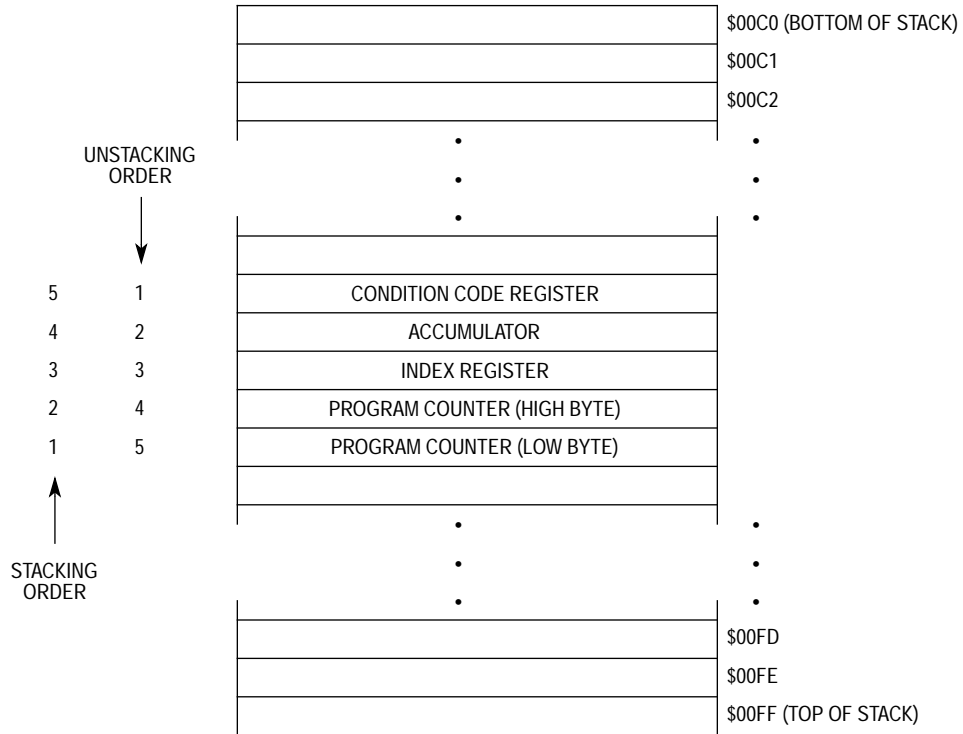

Figure 4-3. Stacking Order
- Stores the CPU registers on the stack in the order shown in Figure 4-3
The return from interrupt (RTI) instruction causes the CPU to recover the CPU registers from the stack as shown in Figure 4-3.